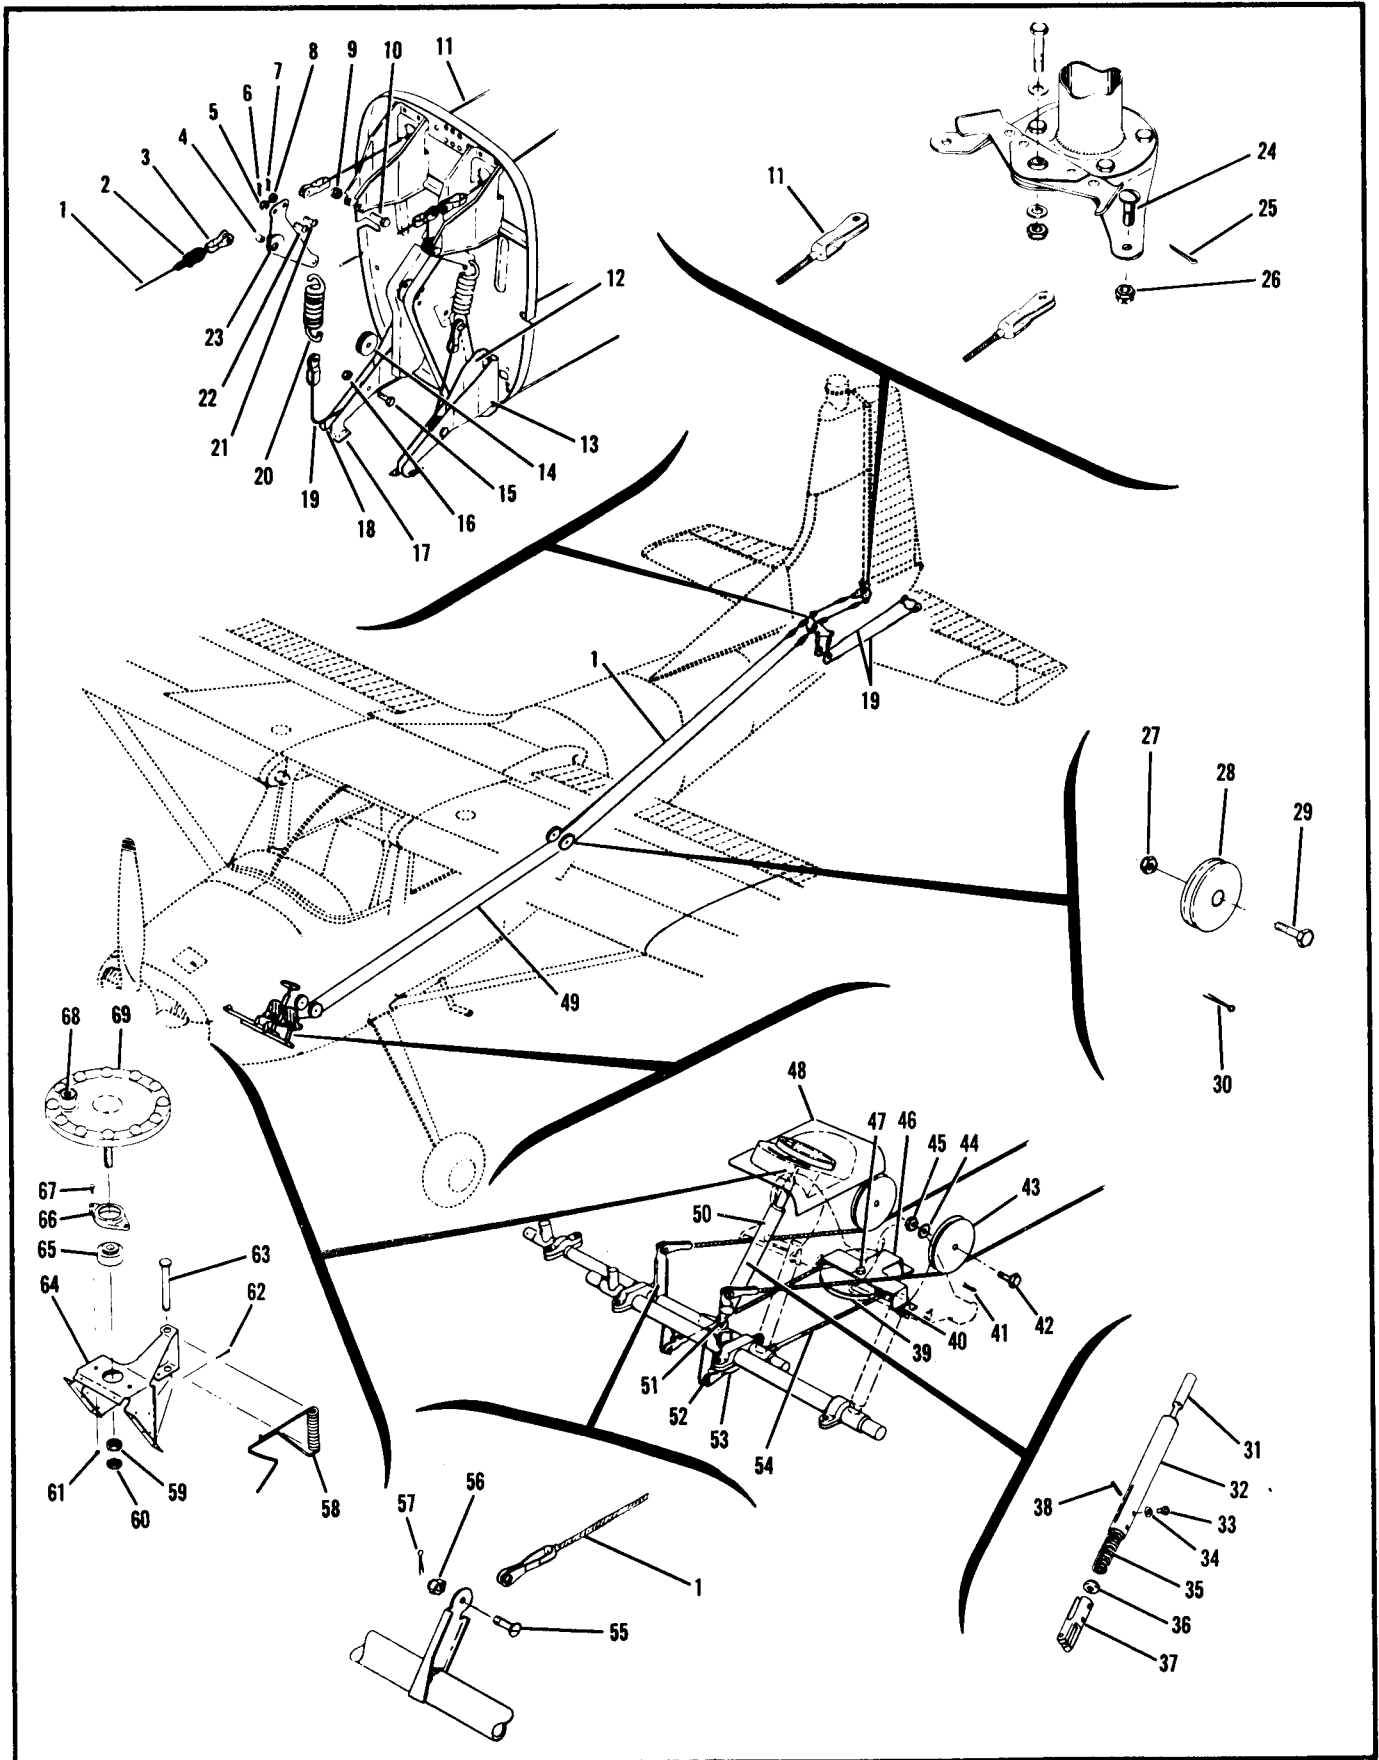

Figure 10-7. Rudder Control System - Model 185
Key for Figure 10-7
- c. Adjust turnbuckles on rudder cables and carry-thru cable (40, figure 10-7) so that rudder pedals are neutral and are 6-1/2" aft of firewall, measured to pedal pivot points. Maintain 20 to 40 pounds tension on the two rudder cables.